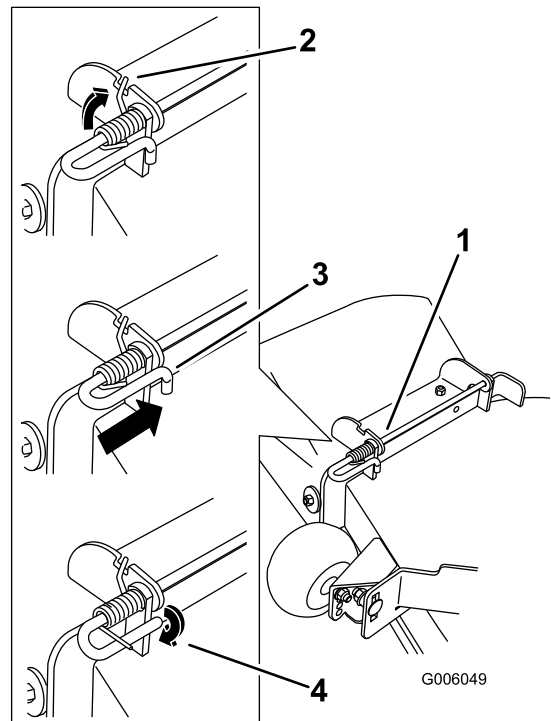

Figure 77
4. Lift the long end of the spring and place it into the notch on the deflector assembly bracket (Figure 77).
5. Secure the rod and spring assembly by twisting it so the short end of the rod can be placed behind the front bracket welded to the deck (Figure 77).